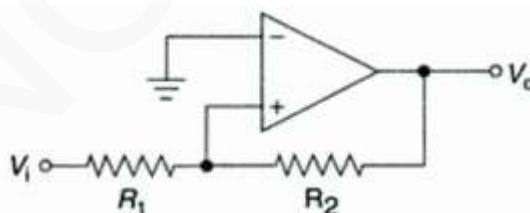

Figure 17.45: Non-inverting comparator with hysteresis
- Non-inverting comparator with hysteresis can be built by applying the input signal to the non-inverting input (Figure 17.45).